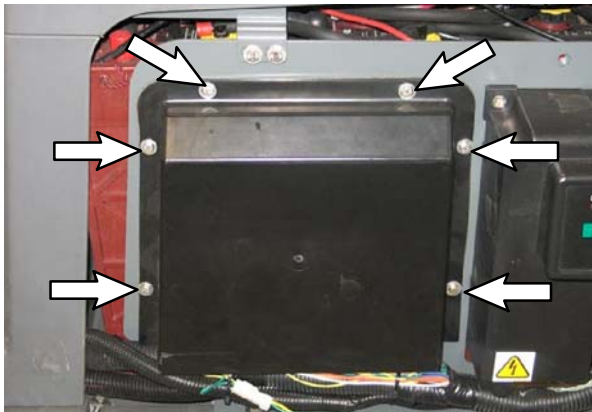

FIG. 2
- Remove the circuit board cover from the electronic component mounting plate. Set the circuit board cover and all hardware aside. (Fig. 2)
- Reinstall the circuit board cover onto the electronic component mounting plate. (Fig. 2)